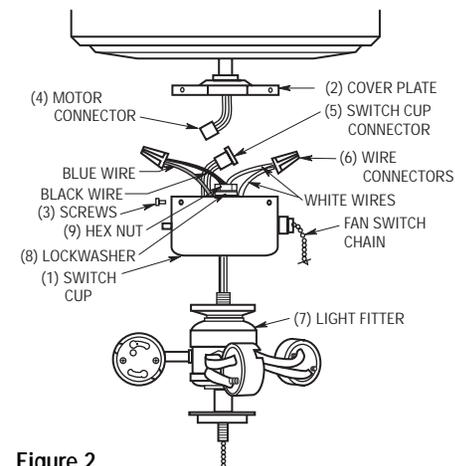

Figure 2
5. Carefully locate the white and blue wires (labeled either "L" or "LIGHT") in the switch cup. Remove and retain the wire connectors(6) from the wires (Figure 2).
6. Insert the black and white wires from the light fitter(7) through the center hole in the switch cup (Figure 2) and thread the switch cup tightly onto the light fitter. Hold wires taut while installing switch cup to prevent the wires from twisting.
7. Insert the black and white wires through the lockwasher(8) and hex nut(9) supplied. Firmly tighten the hex nut to secure the light kit fitter(7) to the switch cup(1) (Figure 2).
8. Connect the white wire from the switch cup to the white wire of the light fitter (Figure 2). Connect the blue wire from the switch cup to the black wire of the light fitter. Use U.L. listed wire connectors (previously removed in Step 5) to make connections (Figures 2 and 3).
9. Carefully tuck all wires and splices into the switch cup(1). (Figure 2.)
10. Connect the motor connector(4) to the switch cup connector(5).
- Position the cup/light fitter(1)(7) on the cover plate(2) and install the three screws(3) that were previously removed in Step 2 and tighten securely.